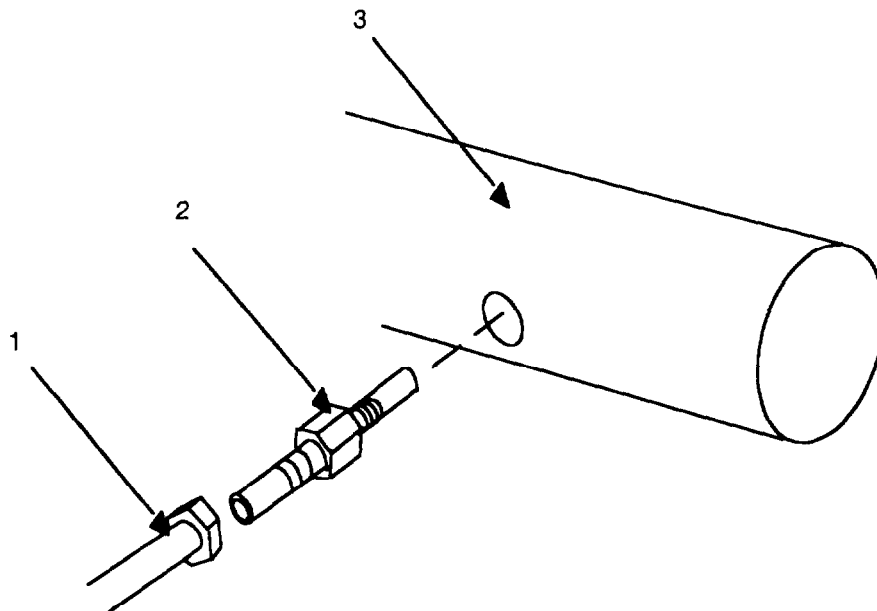

Figure 4-6.3. Starting Aid Nozzle Maintenance (Model 350 PAWN).
4.10.4.3.1. Removal. (Refer to figure 4-6.3)
- a. Unscrew nut of tubing (1) from nozzle (2).
- b. Remove nozzle (2) from intake manifold (3) of engine.
4.10.4.3.2. Installation. (Refer to figure 4-6.3)
- a. Install nozzle (2) on manifold (3) of engine in a manner that blue dot on nozzle is positioned to the left of the installer and is tight. When installed this will inject starting fluid into the manifold against the air stream for optimum atomization.
- b. Connect tubing (1).